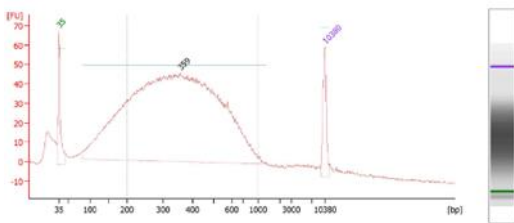

Figure 1 Agilent 2100 Bioanalyzer Fragment Size Distribution Results of the fragmentation Product
**Note:** For the first fragmentation test, it is recommended to take 1  $\mu\text{L}$  product from Step 3.1.9 and run Agilent 2100 Bioanalyzer (High Sensitivity DNA Kits). The normal PE150 fragment size should be between 100 bp–1000 bp, with a peak size of 300 bp–500 bp (see Figure 1). Titrate the 32°C incubation time if the peak size is too large or too small.